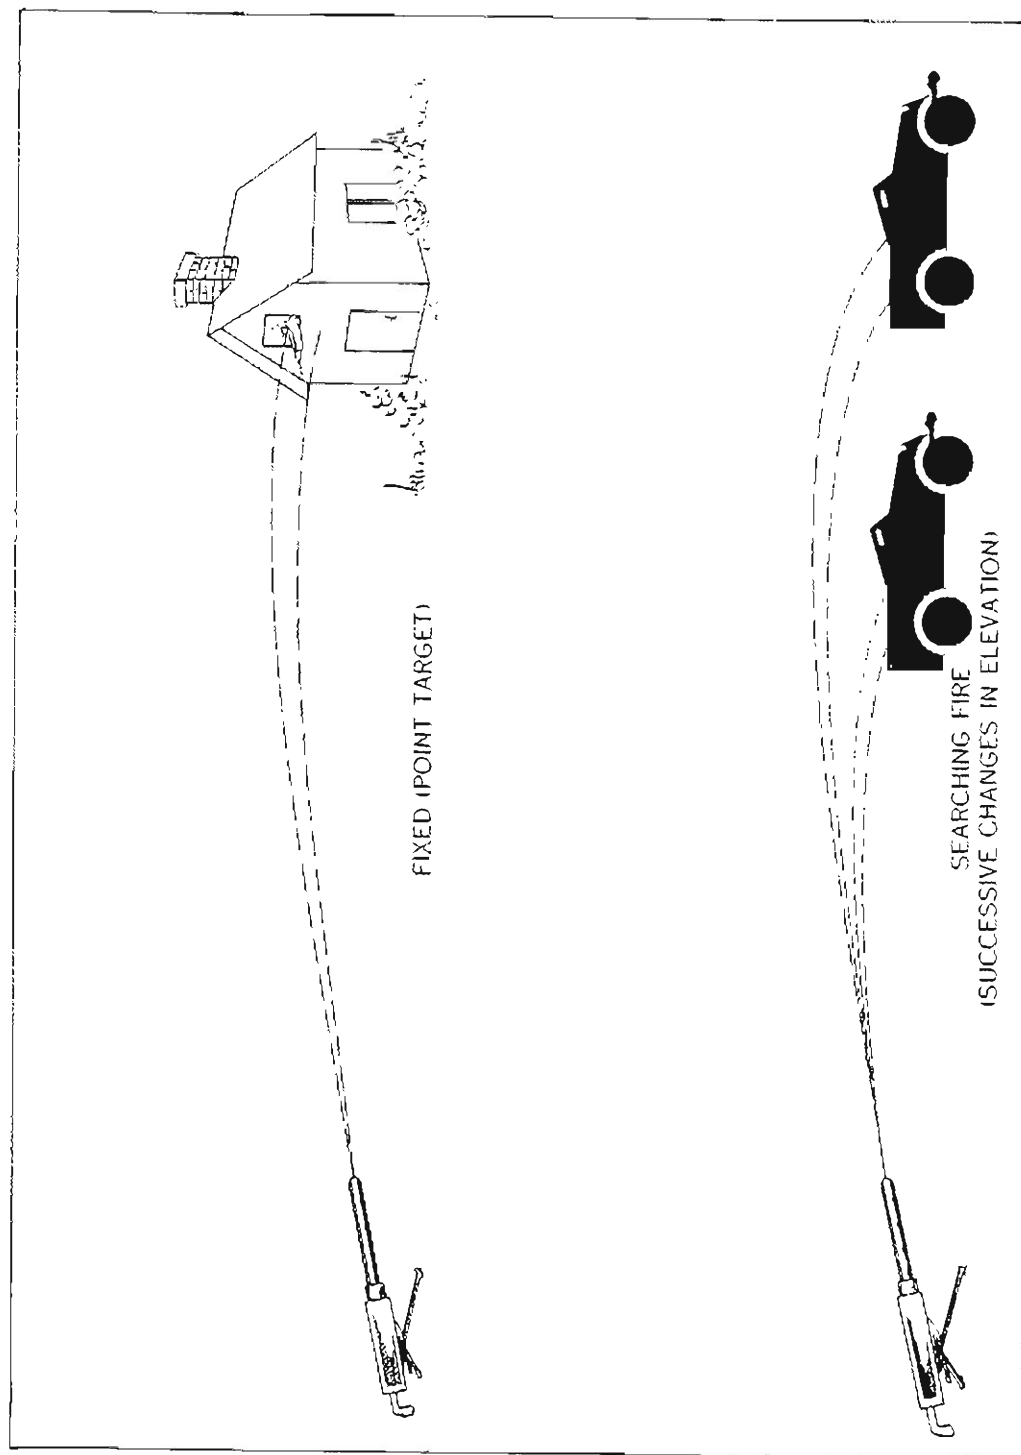

Figure 20
(1) Fixed (fig. 20).
(3) Searching (fig. 20).